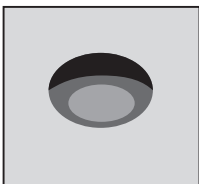

Figure 10.2
4. Make a mark through the hole onto the floor surface creating a drilling guide (Figure 10.2).